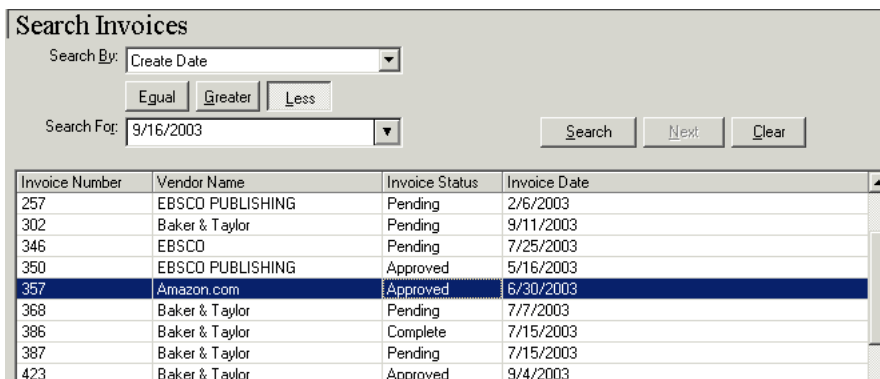

Figure 7-3. Search Invoices workspace
- If searching for an invoice, the **Search Invoices** workspace opens with results of the search (see Figure 7-3).